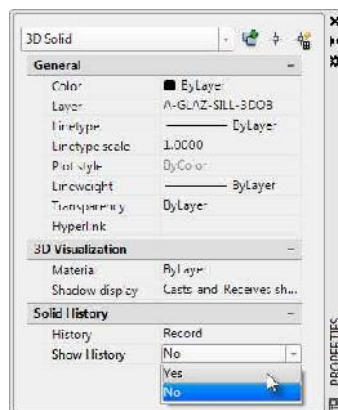

FIGURE 16.35: In the Properties palette, set the Show History property to Yes.
3. In the Solid History rollout, choose Yes for the Show History option. See Figure 16.35.